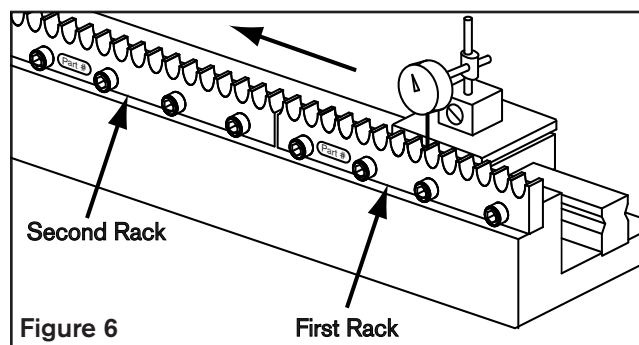

Figure 6
6. Once the rack mounting bolts are fully torqued, verify tooth peak variance is less than ± 0.03 mm [± 0.001 in] by placing a dial indicator on the movable carriage with the indicator tip on the tooth peaks. Measure the tooth peak variance at points throughout the rack section as shown in Figure 6.